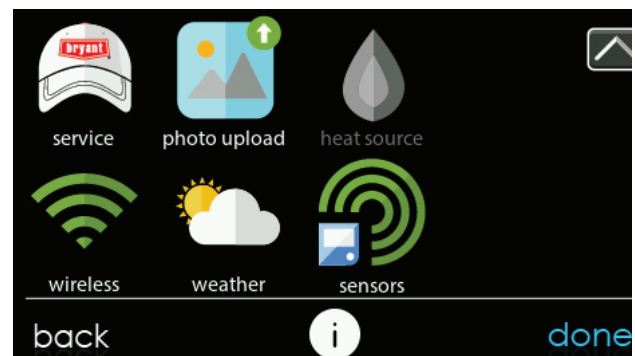
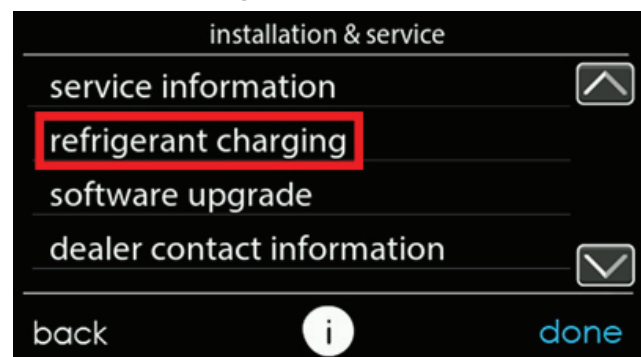

Fig. 10 – Service Icon
Fig. 11 – Select Refrigerant Charging
4. Navigate to the service area by pressing MENU from main screen (see Fig. 10). Scroll down to service icon and hold until icon turns green. Once in the "Installation and Service" menu, select "Refrigerant Charging" (see Fig. 11).
2. In the "installation and service" menu of the UI (see Fig. 10), go to "refrigerant charging" and then "pump down" (see Figs. 11 & 12).
2. In the "installation and service" menu of the UI (see Fig. 10), go to "refrigerant charging" and then "evacuation" (see Fig. 11) and Fig. 12).